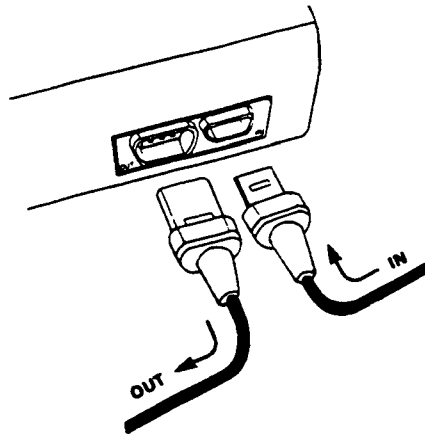

Figure 5-3. Typical HP-IL System Interconnection
The 3468A/B may be connected at any point in the loop. Refer to Figure 5-3. HP-IL connections to the 3468A/B are by two cables, one going to the previous instrument in the loop (IN) and the other going to the next instrument (OUT). All of the interface cables must form a continuous loop. All connectors are designed for proper orientation. To connect a device such as the 3468A/B, first turn off the calculator and the device to be added to the loop. Then, disconnect the loop in one place and connect the 3468A/B into the loop at that place. All devices must be turned on for the interface to work properly. The calculator assigns new addresses to each device at turn-on. Total cable length between any two consecutive devices in the loop must not exceed 10 meters (33 feet) for standard cable.